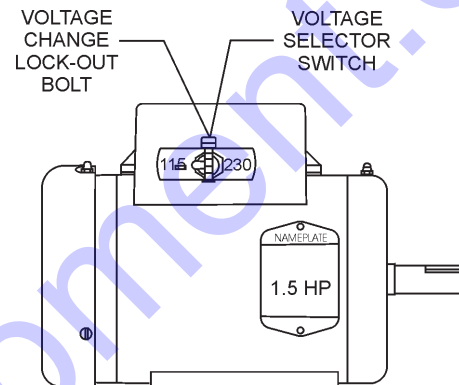

Figure 17. Voltage Change Switch (115 VAC Position)
5. Place the voltage selector switch (Figure 17) in the position that is in accordance with voltage listed on the electric motor's nameplate. The electric motor's are shipped from the factory with the with the voltage selector switch placed in the 115 VAC position.